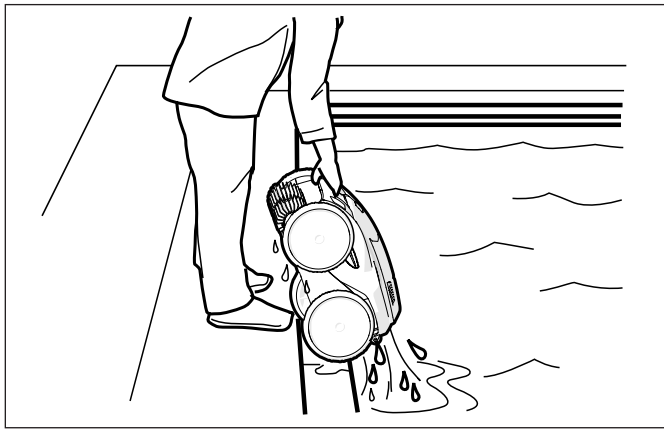

Figure 16. Keep Cleaner Vertical to Drain Water
2. Hold the cleaner vertically to drain (Figure 16).